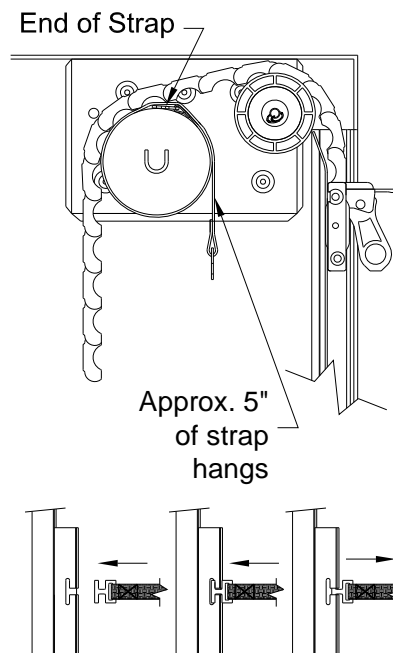

Fig. 5
- b) Let the straps hang as shown in Fig. 5. Straps should wrap around the operator diameter approximately $1\frac{1}{4}$ times, then drape down approximately 5".
- a) Feed the top slat of the shutter over the nylon rollers and operator as shown in Fig. 5. Let the curtain hang behind the operator. Gravity should hold the curtain in this position the bottom rail against the header.